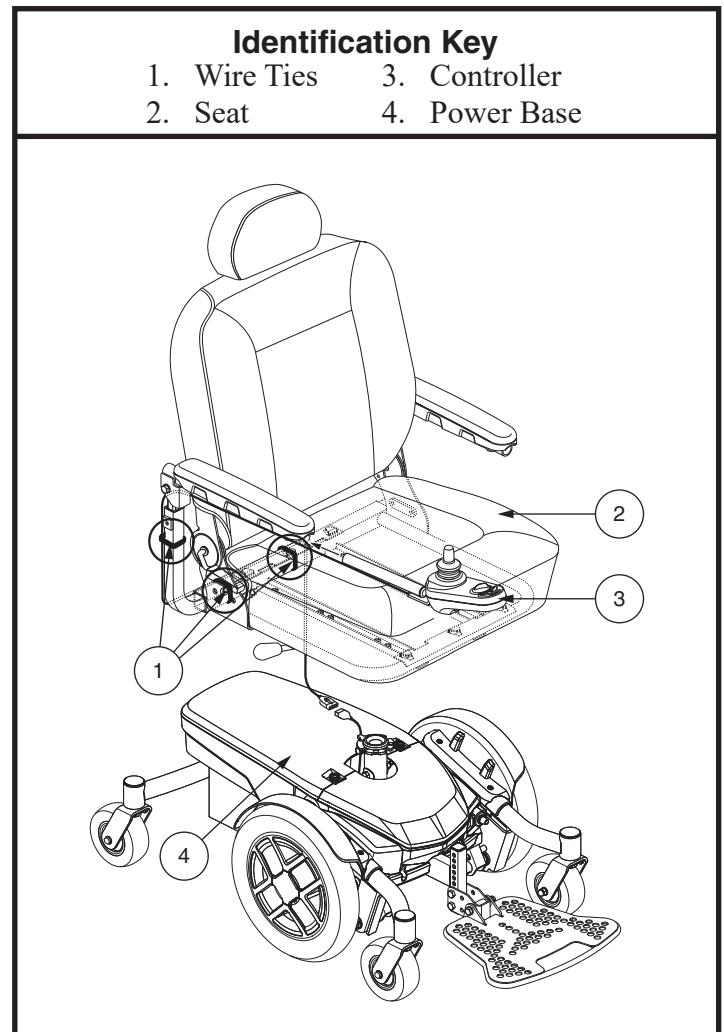

Figure 7. Seat and Controller Assembly
1. Slide the seat down onto the power base. See figure 7.
3. Lift the armrest straight up, then route the controller harness and secure with wire ties as shown in figure 7.
9. Route the controller harness along the seat frame and secure with wire ties. **See figure 7.**